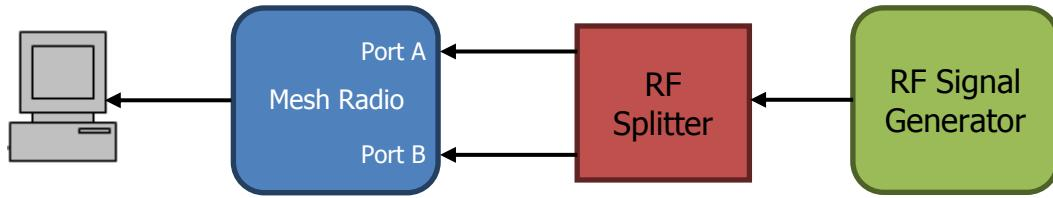

Figure 7: RF Rx test set-up
- Disconnect the cable from the Analyser and the 50Ω Termination (or 20dB Attenuator) from the Splitter cable. Connect both cables from the Splitter to J19 and J22 (both SMP) of the D1705. Set-up should be as per Figure 7.